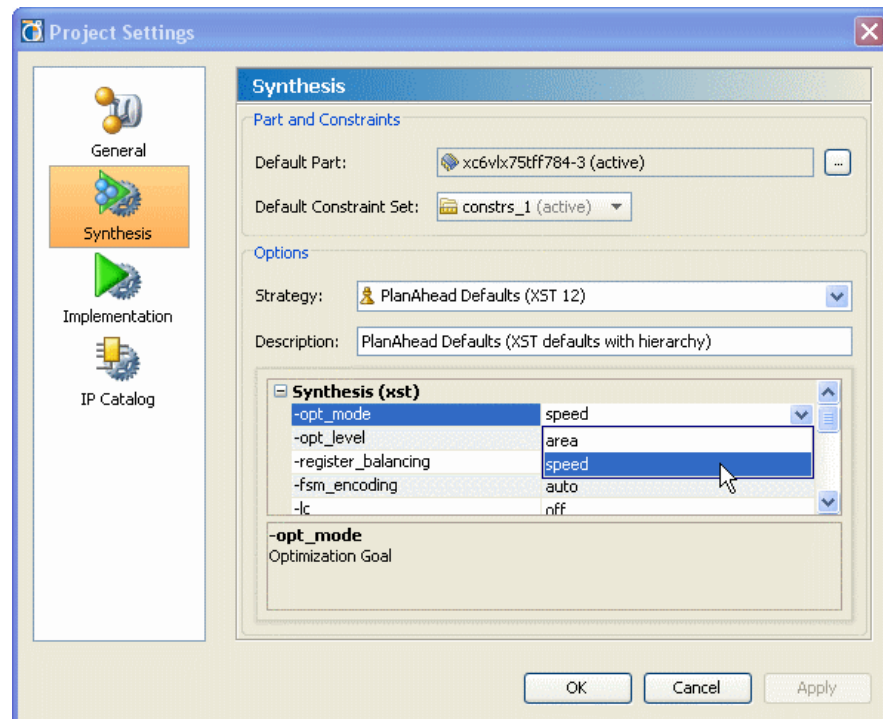

Figure 3-33: Synthesis Project Settings Dialog Box
- Strategy options can be overridden by selecting the option directives as shown in Figure 3-33.